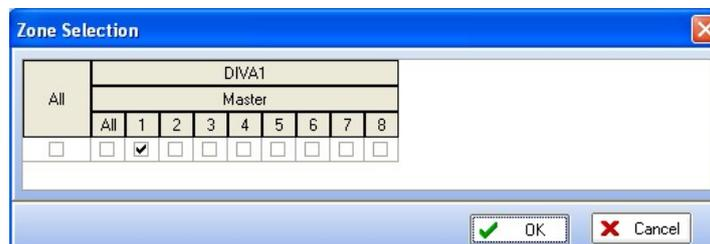

Figure 35: PSS Zone Selection window
- In the drop-down menu, select “Zone Selection”. The “Zone Selection” window will open (Figure 35). Select the zone 1 and click “OK”.